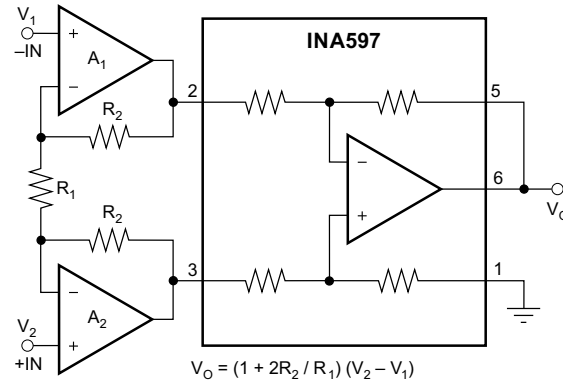
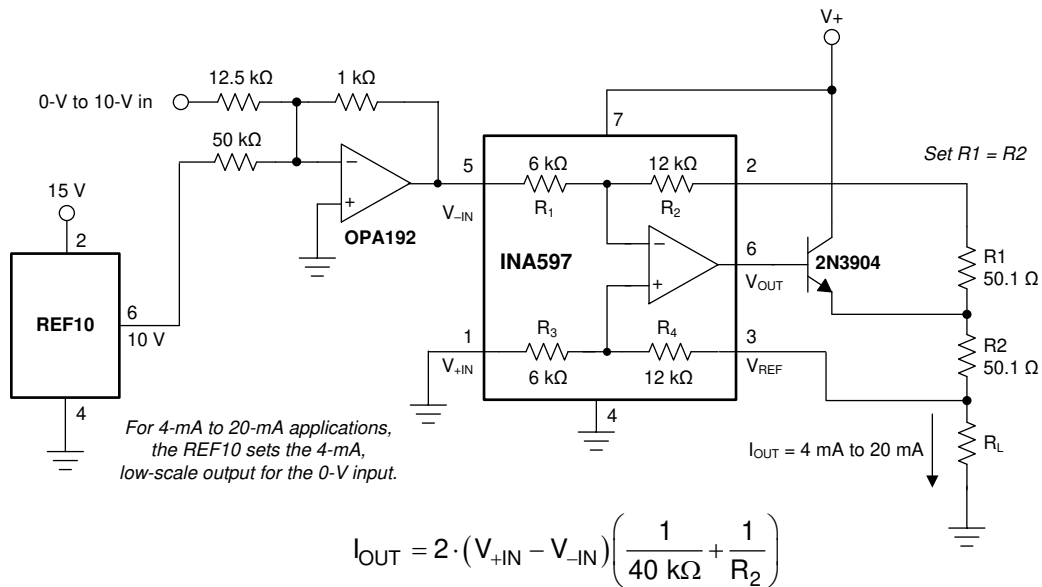

图 78. Precision Instrumentation Amplifier
图 82. Precision Voltage-to-Current Conversion
The INA597 measures voltages beyond the rails. For the  $G = \frac{1}{2}$  and  $G = 2$  difference amplifier configurations, see the input voltage range in the Specifications section for details. The INA597 can be configured in several ways; see Figure 78 to Figure 82. These configurations rely on the internal, matched resistors; therefore, all of these configurations have excellent gain accuracy and gain drift.
The INA597 can be combined with op amps to form a complete instrumentation amplifier (IA) with specialized performance characteristics, as shown in 图 78.